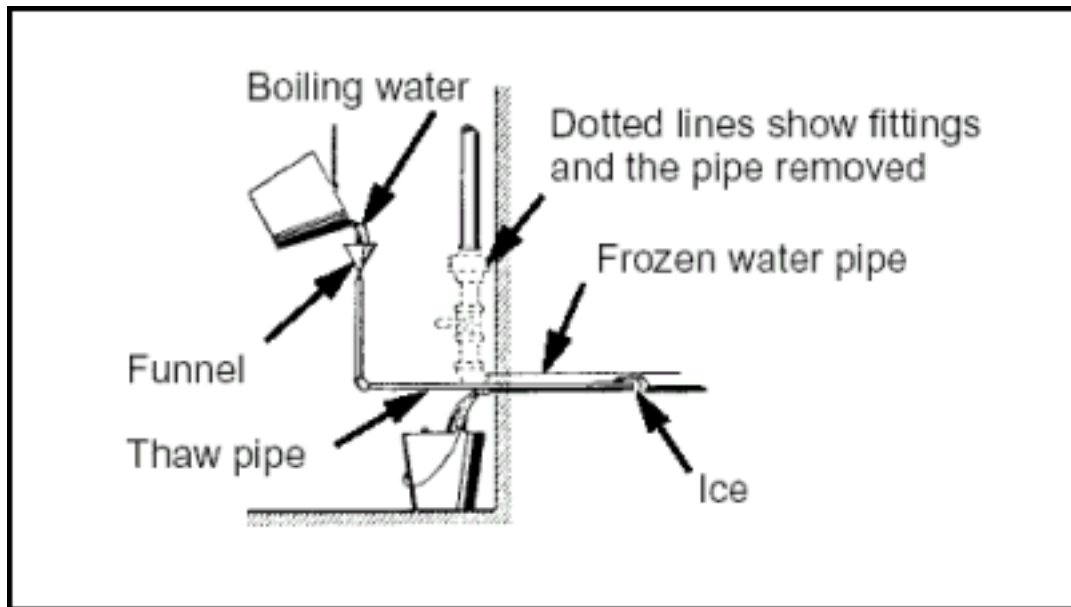

Figure 3-1. Thawing a Frozen Pipe
Step 2. Place a small thaw pipe or tube into the frozen pipe as shown in Figure 3-1.